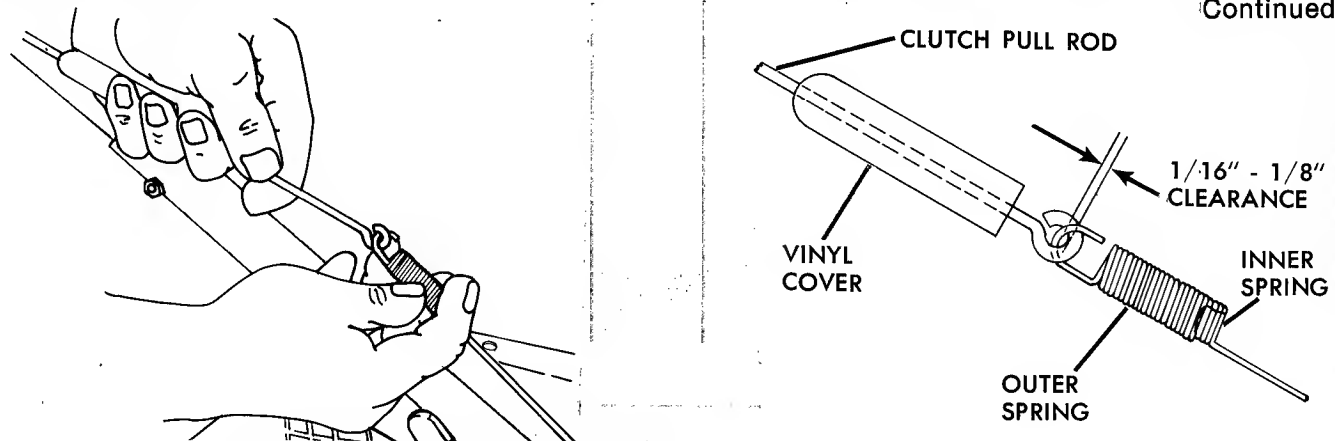

FIGURE 7 — CLUTCH SPRING LOCATION AND ADJUSTMENT DETAIL
Make sure the vinyl cover remains over the spring(s) connecting the clutch pull rod to the clutch idler components (see Figure 7). This not only keeps the springs clean but prevents it from rubbing against and wearing a hole in the grass bag on mowers so equipped.
**ADJUSTMENTS:** If excessive pressure is required to hold the clutch lever in the engaged or drive position, the clutch pull rod springs are probably out of adjustment. This is checked with the engine stopped and the clutch handle released. When properly adjusted there should be 1/16" to 1/8" clearance between the inside hook of the spring and inside eye of the push rod as shown in Figure 7. To adjust, unhook and rotate the inner and outer springs in opposite direction, rehook and check clearance. Repeat this procedure until the clearance is correct. If the clutch handle does not snap back to disengage the drive when the handle is released, check the clip holding the pull rod to the handle bar for binding. Position this clip about 5" from the upper handle and rotate to best position to allow the rod to slide without interference. **Note:** If the clip is placed too high, it may create excessive pressure on the push nut holding the end of the pull rod to the clutch lever and eventually cause the push nut to pop off.